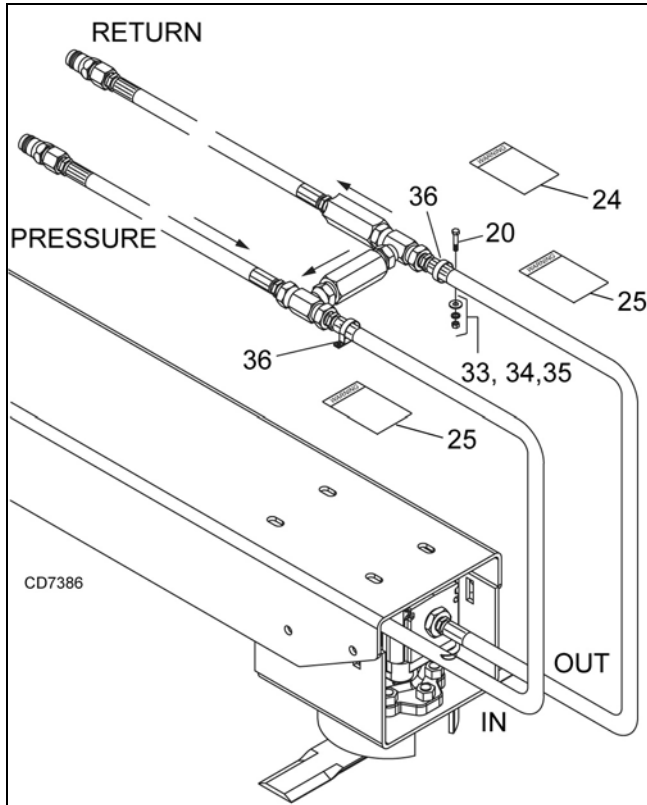

Figure 56. Hose Clamp Installation
1. Place hose clamps (36) around hoses (11) and center hoses between center plate.
3. Secure hose clamps to shredder using 5/16 NF x 1-1/4 cap screws (20), flat washers (33), lock washers (34) and hex nuts (35). See Figure 56.
Apply safety decals (24 & 25) to a clean surface on the back of the shredder where they can be seen without obstructions. Install decals (25) on either side of the hose assembly. See Figure 56.